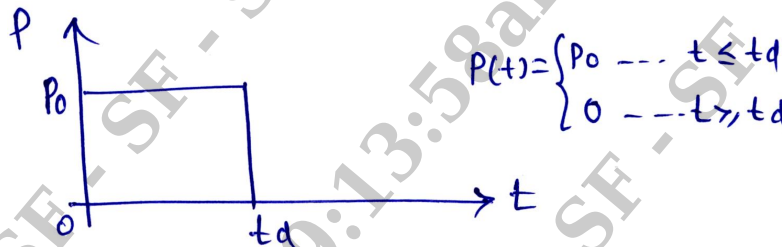

Fig.Q4(b)
- b. Determine the response of rectangular pulse force in a undamped SDOF system as shown in Fig.Q4(b).